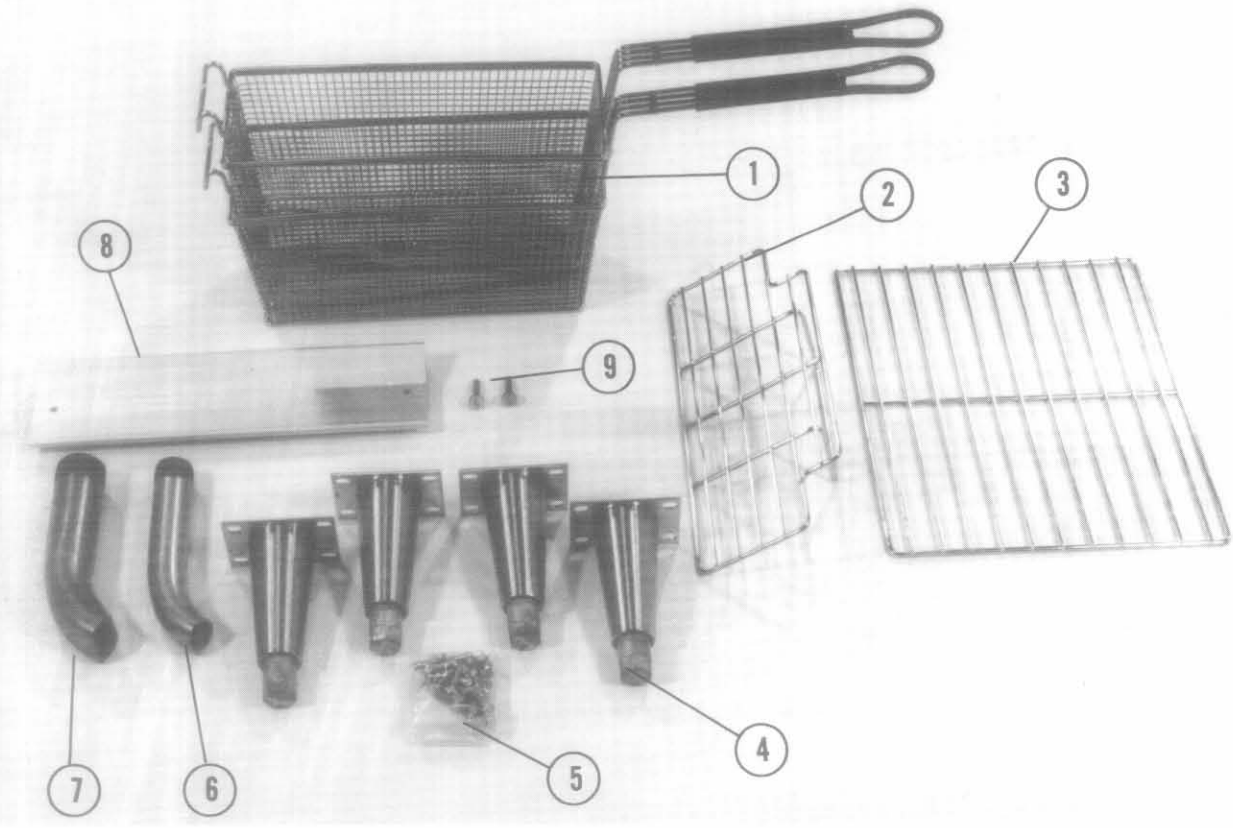

Figure 15
**16. PARTS LIST (CONT'D)-Accessories (Refer to Figure 15)**